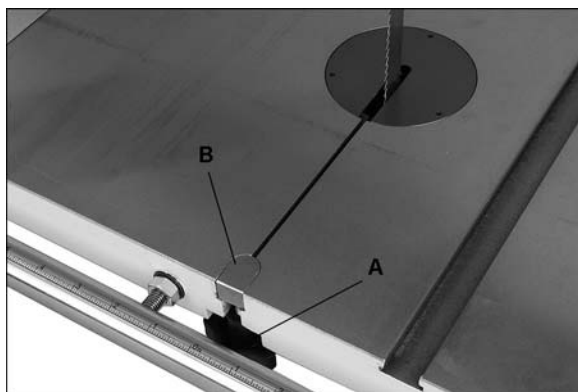

Figure 16
Refer to Figures 16, 17, 18.
- Loosen lock handle (A, Figure 16) and slide out block (B).
- Reinstall table block (B, Figure 16) and tighten knob (A).